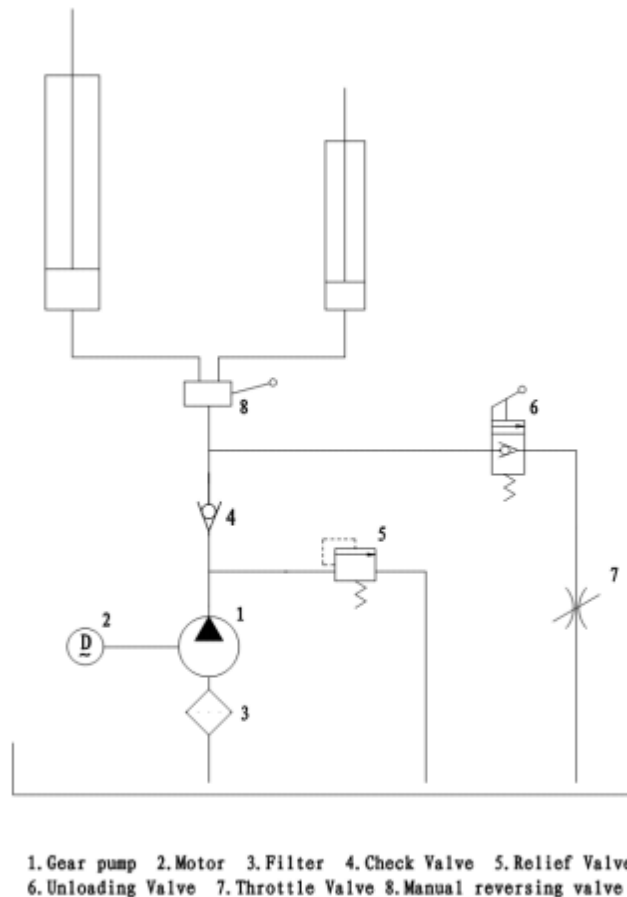

Figure 7 Schematic diagram of hydraulic system
6.10.Oil connection: connect according to the hydraulic system schematic diagram in FIG. 7 of the instruction manual. Please check whether the high-pressure oil pipe mouth is clean and free of foreign matter before connecting.If any foreign matter is found, it must be blown clean with compressed air or cleaned with diesel oil.